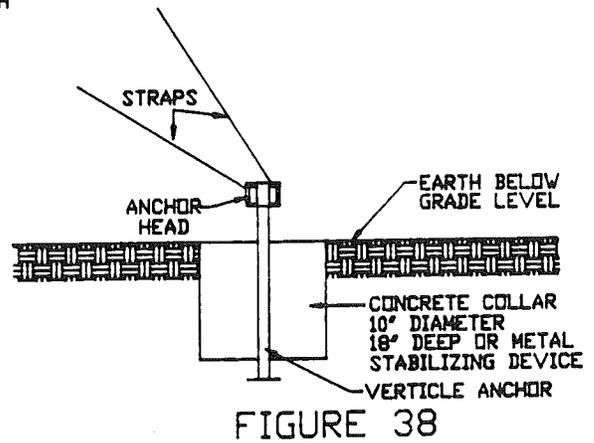

FIGURE 38
3. IF ANCHOR IS INSERTED VERTICLE A CONCRETE COLLAR OR STABILIZING DEVICE MUST BE USED AT THE GROUND LINE. SEE FIG. 38 & 39.